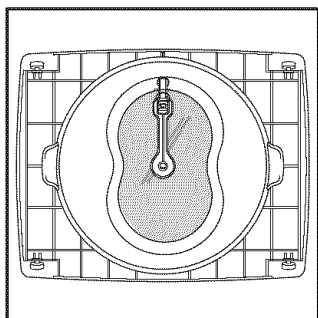

Figure 4
3. Place the glass tray on the rotating ring. Fit the rollers of the shaft between the raised, hollowed groove of the glass tray bottom. The rollers on the rotating ring should fit inside the glass tray bottom ridge. (see figure 4,5)